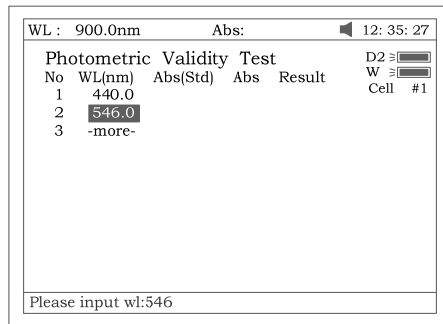

Fig 90
1. Press **[SET λ]** to set the wavelength. Press **[ENTER]** to edit and input wavelength by pressing the numeric keypad (Fig 90). **[ESC/STOP]** to finish inputting and exit.